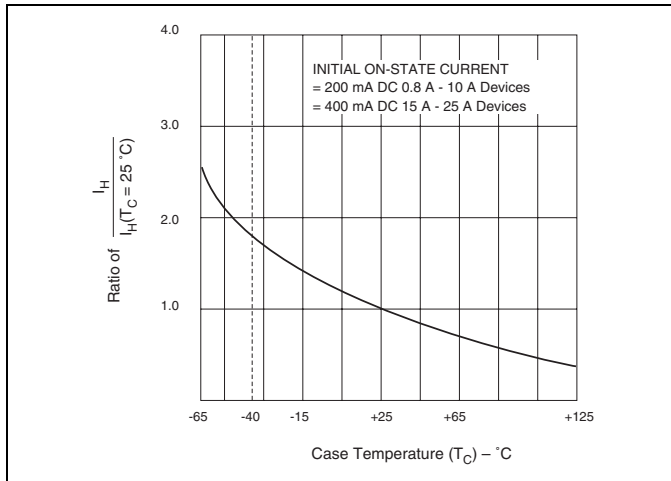

Figure E2.14 Normalized DC Holding Current versus Case Temperature
- (8) See Figure E2.14 for I_H versus T_C.